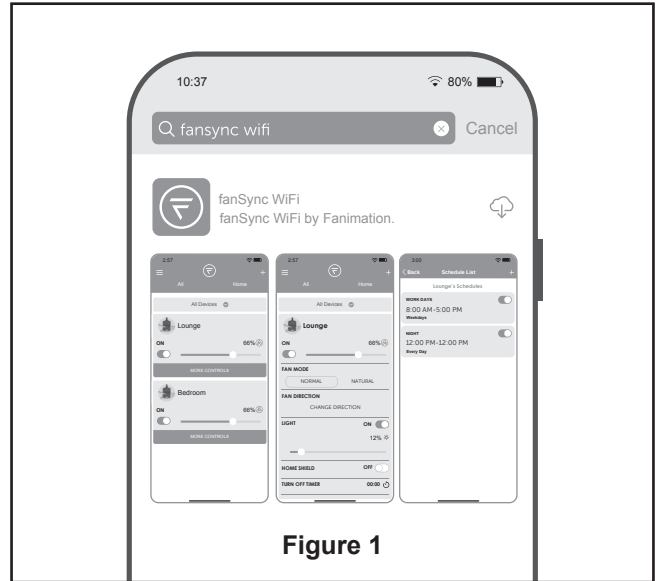

Figure 1
- 1. Installing Wall Holder:** (Figure 1)
1. Visit the Apple APP Store or the Google Play Store to download the free fanSync WiFi APP. (Figure 1)